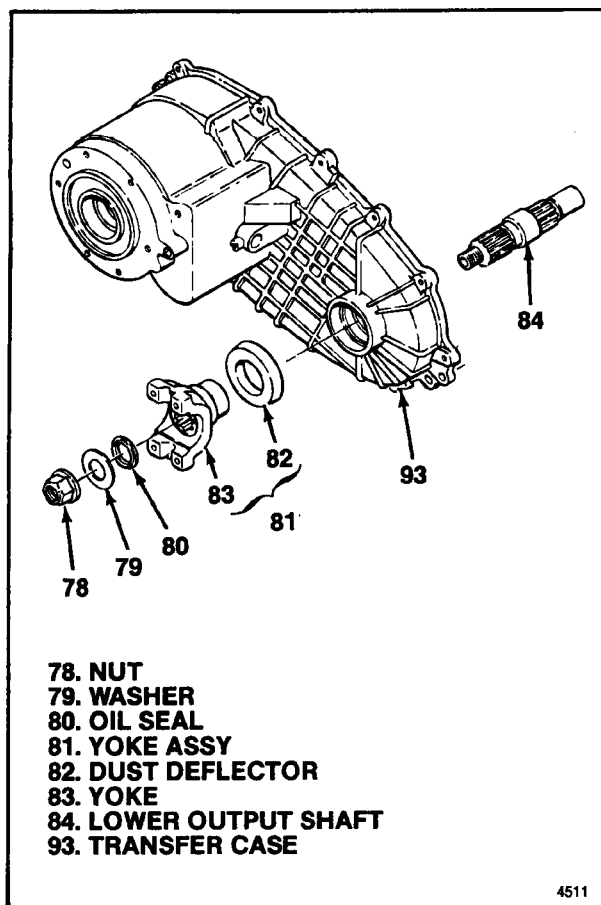

Figure 5-4. Lower Output Shaft and Yoke
5-6. INSTALLING LOWER OUTPUT SHAFT AND YOKE. To assembly as completed thus far (85 through 93), install parts as follows (see figure 5-4):
a. Position oil seal (5) over cover with side marked OUTSIDE up. Using suitable drift, press in oil seal until outside end is flush with bottom of chamfer in cover.
b. Fit oil seal (3) on output shaft with sealing bead facing out. Install yoke (4), washer (2) and nut (1). Torque nut (1) and nut (78, figure 5-4) on lower output shaft to 150-180 lb-ft (203-244 Nm).